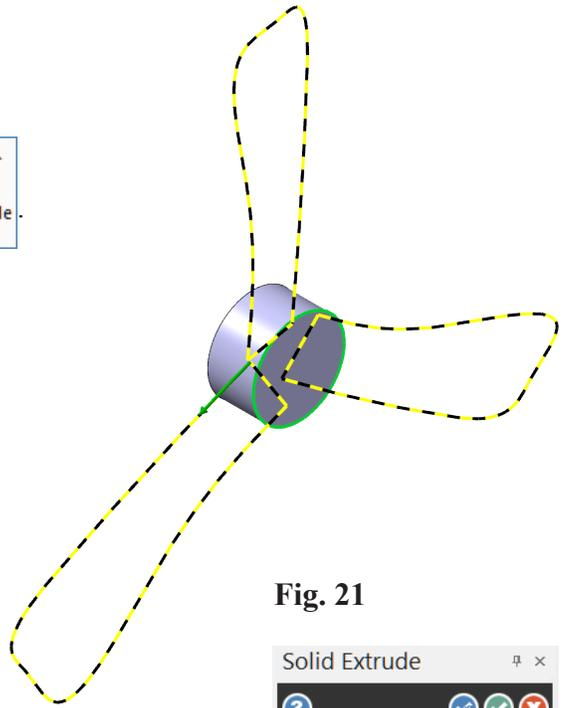

Fig. 21
Step 4. Click **each spline** to chain, **Fig. 21**.